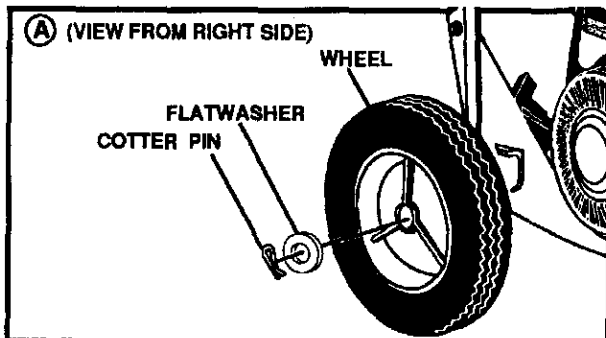

FIG. 2A
- Attach the right rear wheel to the wheel support rod of the edger/trimmer (See Fig. 2A) with a 1/2 x 3/4 inch flatwasher and cotter pin (found in parts bag).